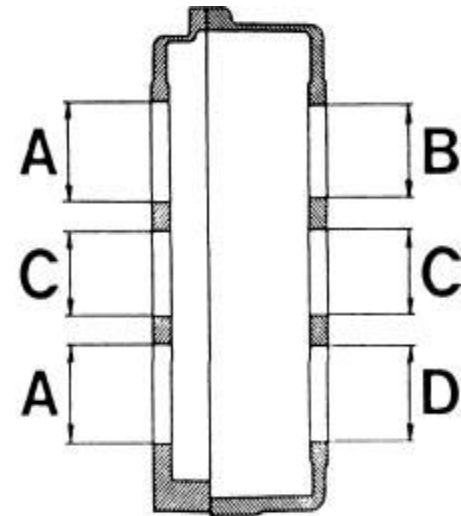

Fig.5-26
- (1) Cleaning and inspection before assembling
- ① All parts must be cleaned thoroughly before assembling. Remove all oil stains, dust as well as all adhesive, sealing and locking agents. Ensure clearness, keep properly the cleaned parts to avoid them from being re-oilstained and redusted.
- ② Check the housing parts for cracks and deformations. Check the friction surfaces of moving parts for cracks, corrosion, rust, pulling damage and overwearing. Especially the raceway and rollers of bearing, thread of gear surface connector. All parts with above-mentioned defects should not be re-used.
- ③ Generally speaking, oil seal, seal ring and other rubber parts and sealing parts should not be re-used.
- ④ Check the transfer case housing and cover hole for scar and overwear. Measure the hole size with micrometer and internal diameter dial indicator, refer to Fig. 5-26, the size scope is